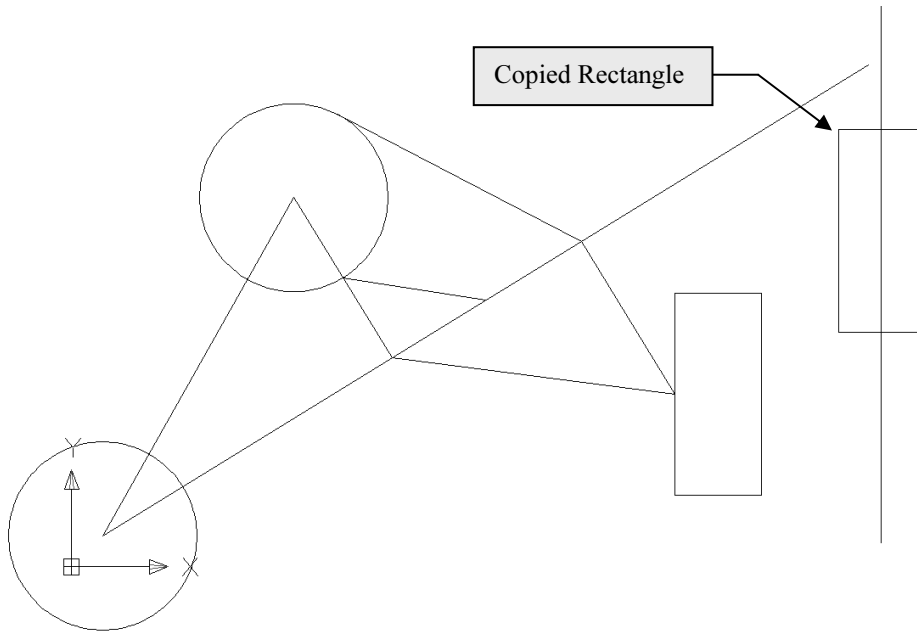

Figure 2-3.5 Copied rectangle. Dashed line represents the distance and angle of displacement.
9. Pick the **Endpoint** of the angled line in the lower left corner. (See Figure 2-3.5.)
(See Figure 2-3.5 and on-screen prompts below.)
The *Move* command works exactly like the *Copy* command except, of course, you move the entities rather than copy them. Given the similarity to the previous command covered, the *Move* command will not be covered here. You are encouraged to try it yourself. Use the *Undo* command to get back to the drawing shown in Figure 2-3.5 before proceeding.